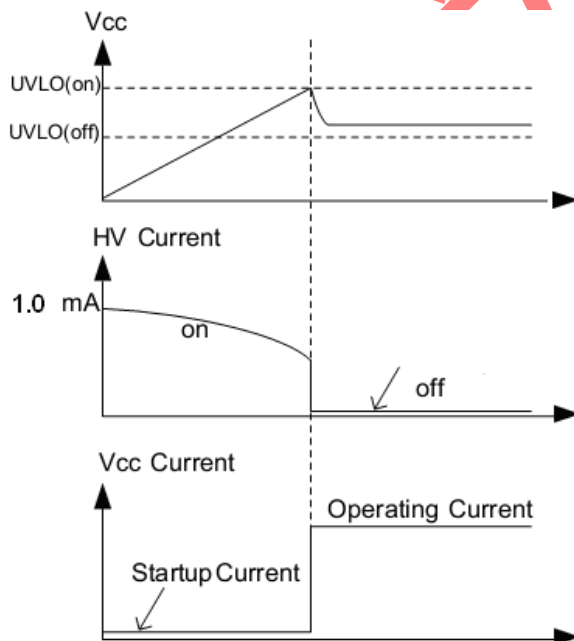

Fig. 1
***Latch PIN FUNCTION OPTION (See below Fig.1)**
GR8875N series implements a high-voltage startup circuit, during the startup; high-voltage current sources are turned on and provide the start-up current as well as charge the Vcc capacitor. When the Vcc voltage is higher than the UVLO (on) threshold, the high-voltage current source will be turned off. Its leakage current is very low (30uA), which only consumes little power. By using such configuration, the traditional startup resistor is not needed and power consumption will reduce.(Refer to Fig. 1).
respectively. This hysteresis shown in Fig.1 ensures that the start-up capacitor will be adequate to supply the chip during start-up.